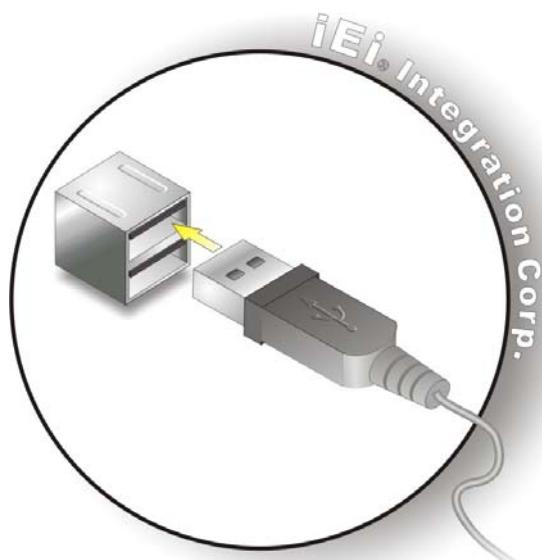

Figure 4-12: USB Connector
Step 2: Insert a USB 2.0/USB 3.0 plug. Insert the USB 2.0/USB 3.0 plug of a device into the USB 2.0/3.0 on the external peripheral interface. See Figure 4-12.